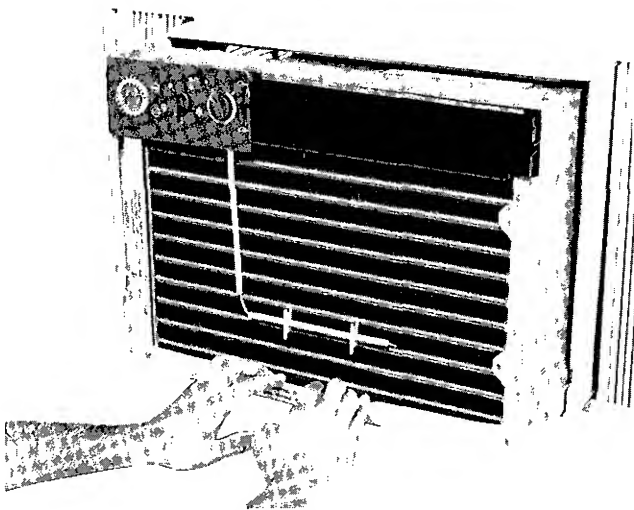

Fig 6 — Sliding Chassis Out of Casing
- 5 **Chassis** — The International Series models have a slide-out chassis. Servicing the chassis is possible without having to remove unit casing from window. See Fig. 6. Use the offset in the basepan as a finger-grip handle to slide chassis out of casing.